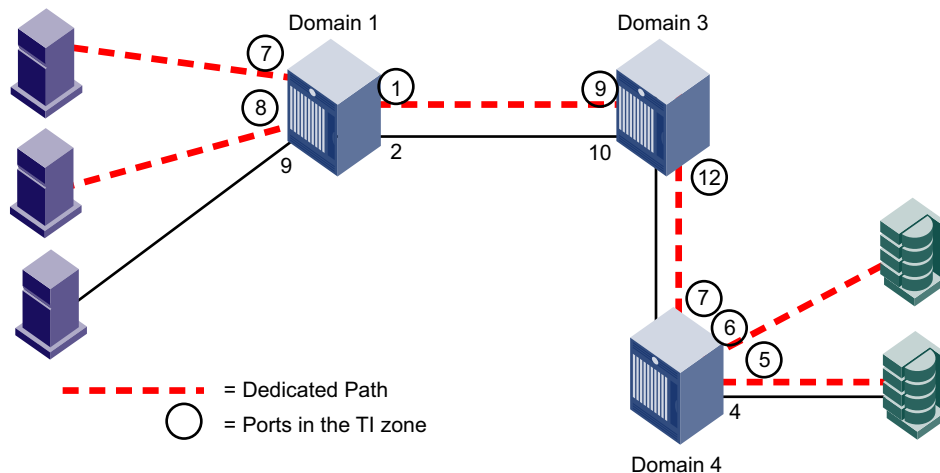

FIGURE 31 Traffic Isolation zone creating a dedicated path through the fabric
Figure 31 shows a fabric with a TI zone consisting of the following:
In Figure 31, all traffic entering Domain 1 from N_Ports 7 and 8 is routed through E_Port 1. Similarly, traffic entering Domain 3 from E_Port 9 is routed to E_Port 12, and traffic entering Domain 4 from E_Port 7 is routed to the devices through N_Ports 5 and 6. Traffic coming from other ports in Domain 1 would *not* use E_Port 1, but would use E_Port 2 instead.
For example, in Figure 31 on page 346, if the dedicated ISL between Domain 1 and Domain 3 goes offline, then the following occurs, depending on the failover option:
- This feature is intended for use in simple linear fabric configurations, such as that shown in Figure 31 on page 346.